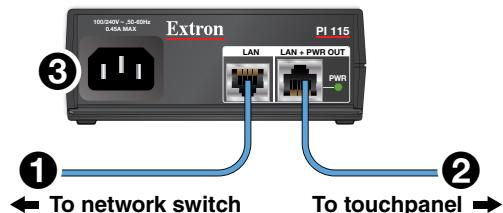

Figure 5. PI 115 Power Injector
These touchpanels must be powered by Power over Ethernet (PoE). Users must provide their own PoE power injector. Figure 5 shows the Extron PI 115. Your power injector may look different.
1. Connect a straight-through Ethernet cable from the power injector to a switch or router (see figure 5, ①). This cable carries network information from the switch or router to the power supply.
2. Connect a second straight-through cable (②) from the power injector to the touchpanel. This cable carries the network information and 48 VDC from the power injector to the touchpanel.
3. Connect the IEC power cord to a convenient 100 VAC to 240 VAC, 50-60 Hz power source (③).